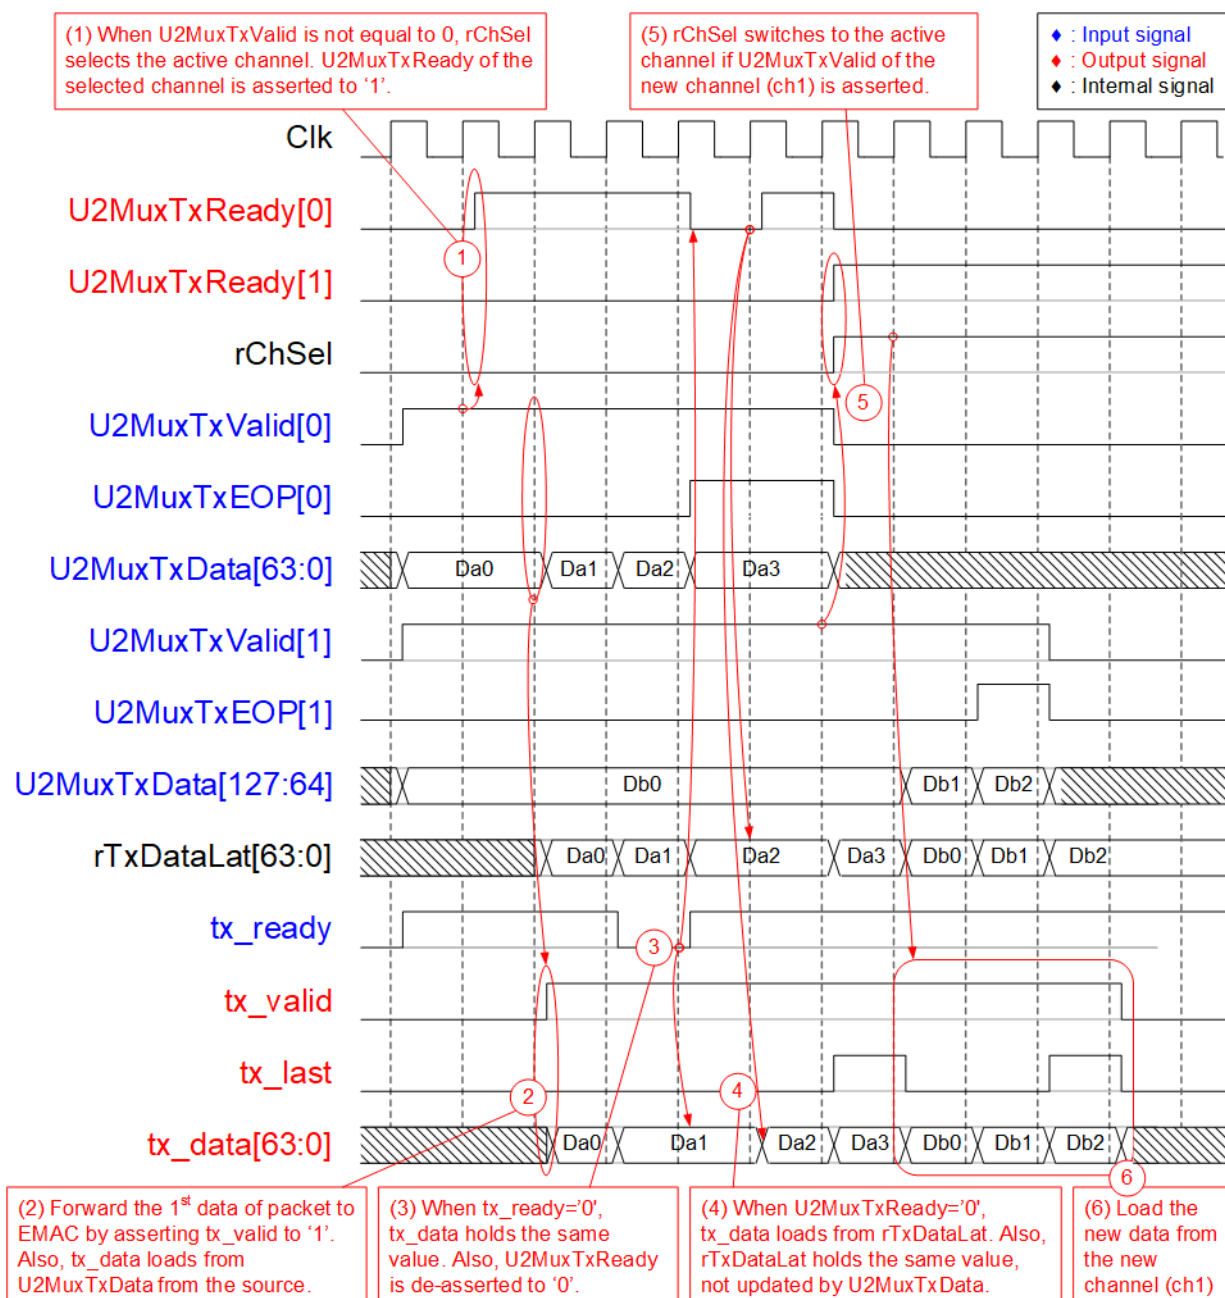

Figure 2-9 TxEMacMux2to1 timing diagram
This module is data switch to select transmitted data from two sources to forward to EMAC. rChSel is the control signal to select the active channel. When two channels are requested in Idle condition, the same channel is selected. After finishing the current channel transferring, rChSel changes the value to transfer the data from another channel. More details are shown in Figure 2-9.
- 1) When two user sends the new packet by asserting U2MuxTxValid to '1' at the same time and now the module is in Idle condition, rChSel (the signal to indicate the active channel) does not change the value to forward the data from the same channel to EMAC. In Figure 2-9, the Ch#0 is selected, so U2MuxTxReady of the selected channel (Ch#0) is asserted to '1' to accept the first data.
- 5) After accepting the final data of a packet from the active channel, the next active channel is scanned. If U2MuxTxValid of another channel is asserted, rChSel will switch the value. In Figure 2-9, the next active channel is Ch#1 (rChSel='1') to accept the data from Ch#1.